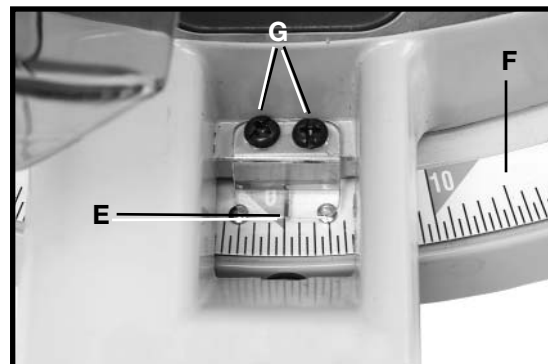

Fig. 14
An indicator (E) Fig. 14 shows the actual angle of cut. Each line on the scale (F) represents 1/2 degree. When the indicator is moved from one line to the next on the scale, the angle of cut is changed by 1/2 degree.
If it becomes necessary to adjust the indicator (E) Fig. 14, loosen screws (G), adjust the indicator (E), and tighten screws.